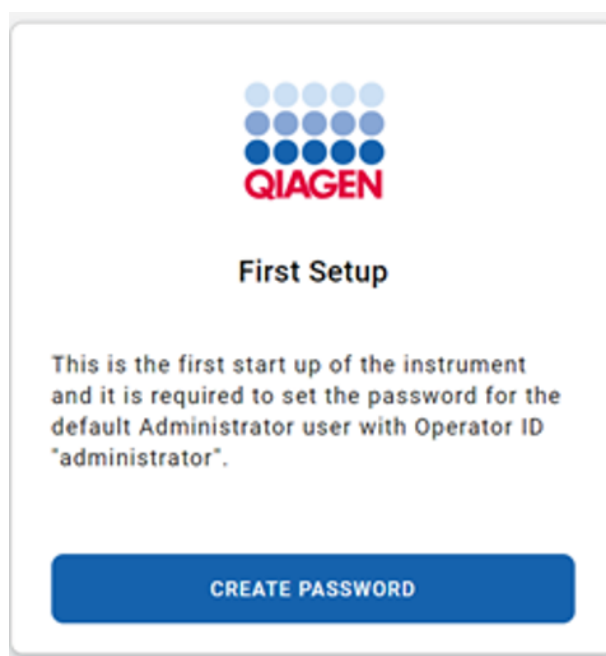

Figure 6. First Setup screen.
2. After successful initial installation of the QIAstat-Dx Rise, the system administrator needs to create a password for the default administrator (Figure 6).